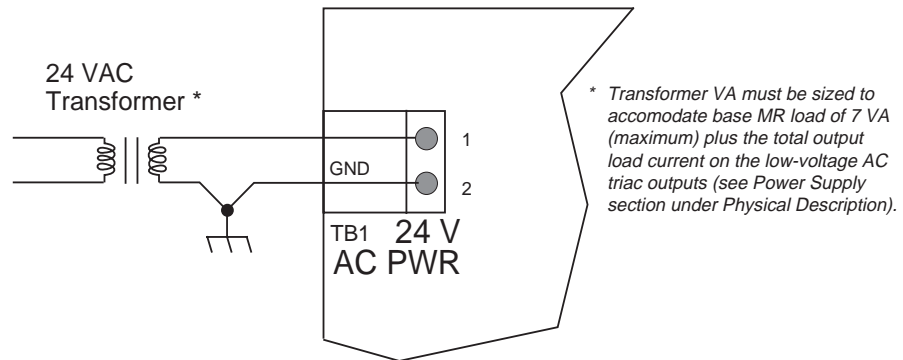

Figure 12. MR Controller Power Connection
Electrical power connections for the 24 VAC input power are provided along the upper left side of all MRs (see Figure 12).
3. The conductor connecting to pin 2 of TB1 (GND) must also be connected to a good earth ground (see Figure 12).